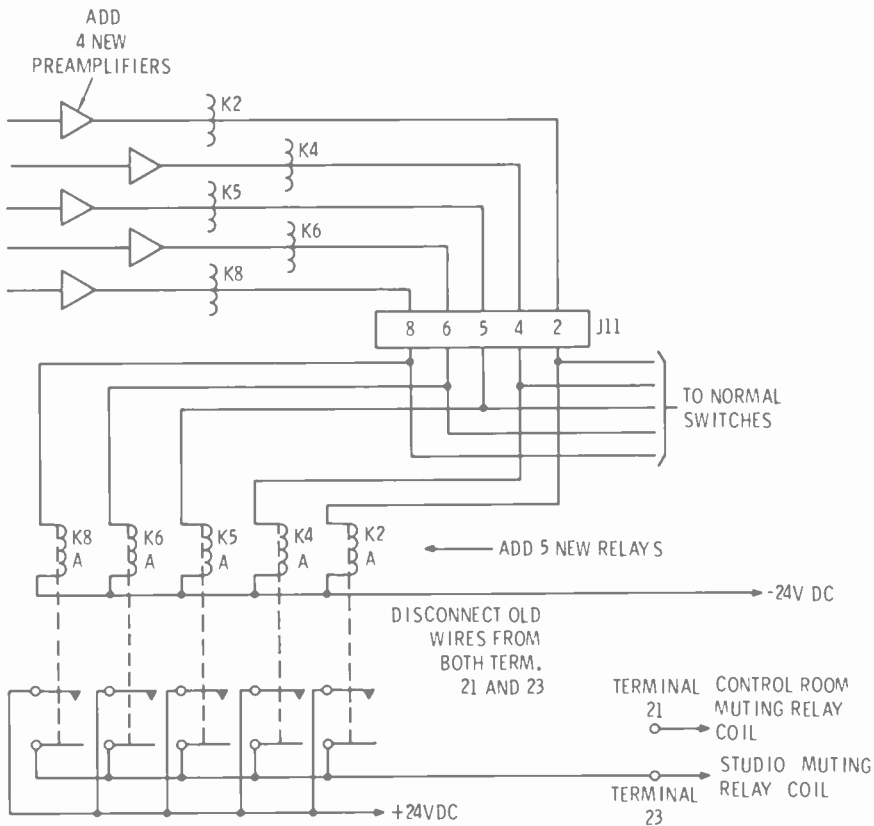

Fig. B-1. TC-A-A modifications to add new microphone channels and to add new relays so that the new microphone positions will mute the studio relay.
1. Providing More Microphone Circuits (Fig. B-1)